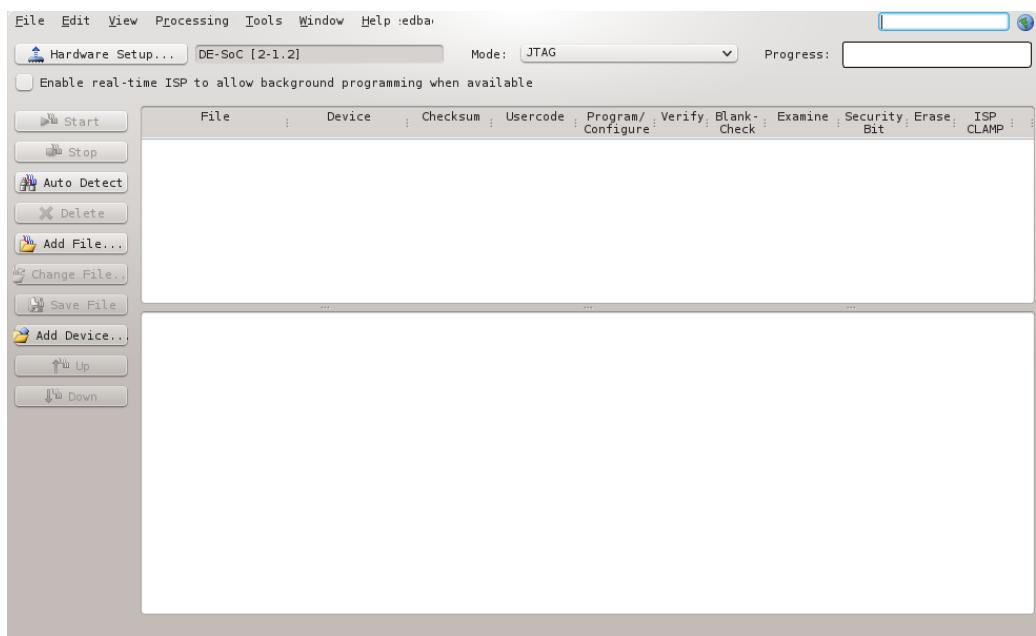

Figure 9-20. Quartus Prime Programmer
45. Choose the “Auto Detect” button on the left of Figure 9-20, then choose “5CSEMA5”, as shown in Figure 9-21.